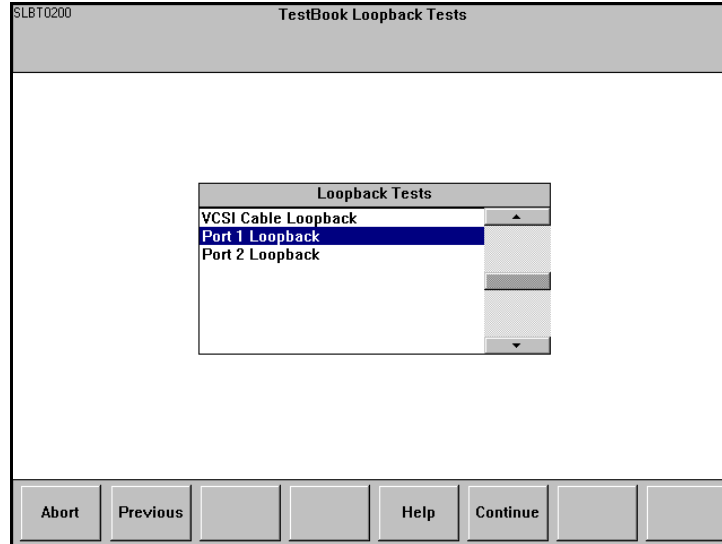

Figure 4
4. Press "Continue" then select the test for Port 1 of TestBook "Port 1 Loopback" (Figure 4).